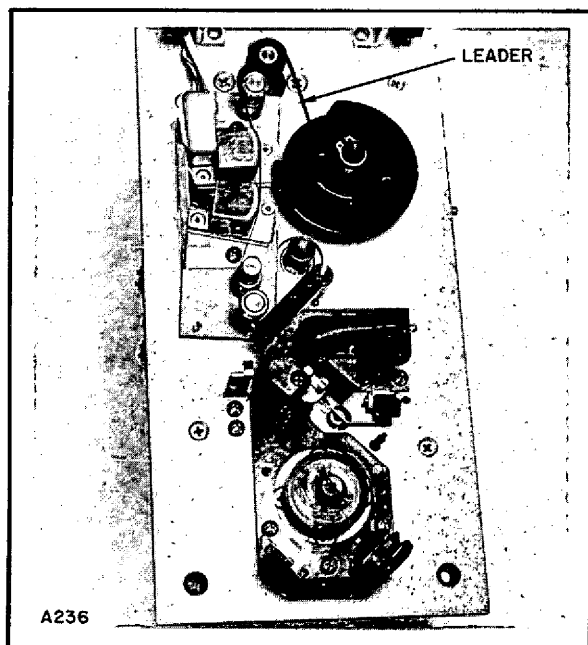

Fig. 4-9. Leader Shown in Tape Path
- m. Place the leader along the tape path, making sure the leader is in the proper grooves of the tape guides. Return the loader to the cartridge insertion position. (See figure 4-9.)